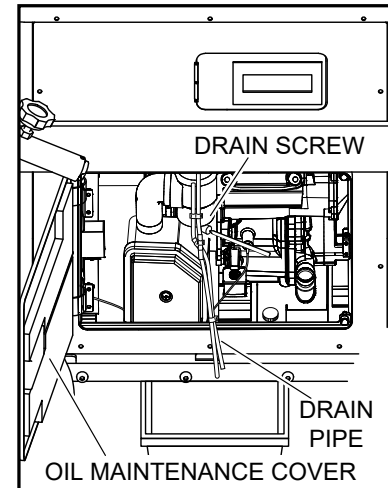

Figure 31. Carburetor Fuel Drain
11. Open the oil maintenance cover (Figure 31).